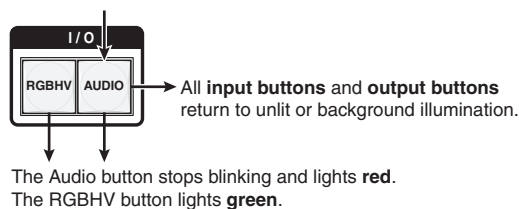

Figure 3-63 — Deselect Audio mode
5. Press and release the Audio button (figure 3-63).